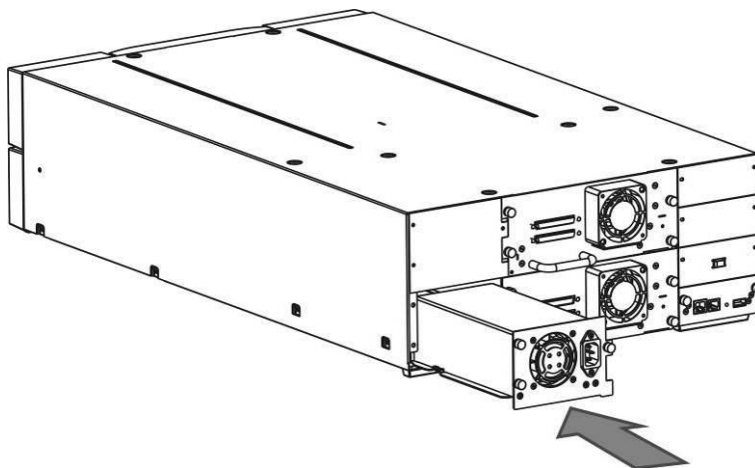

Figure 35 Install a power supply (4U)
9. Insert the power supply on the alignment rails and push the power supply into the power supply bay until it seats itself against the back of the library, see **Figure 35**.